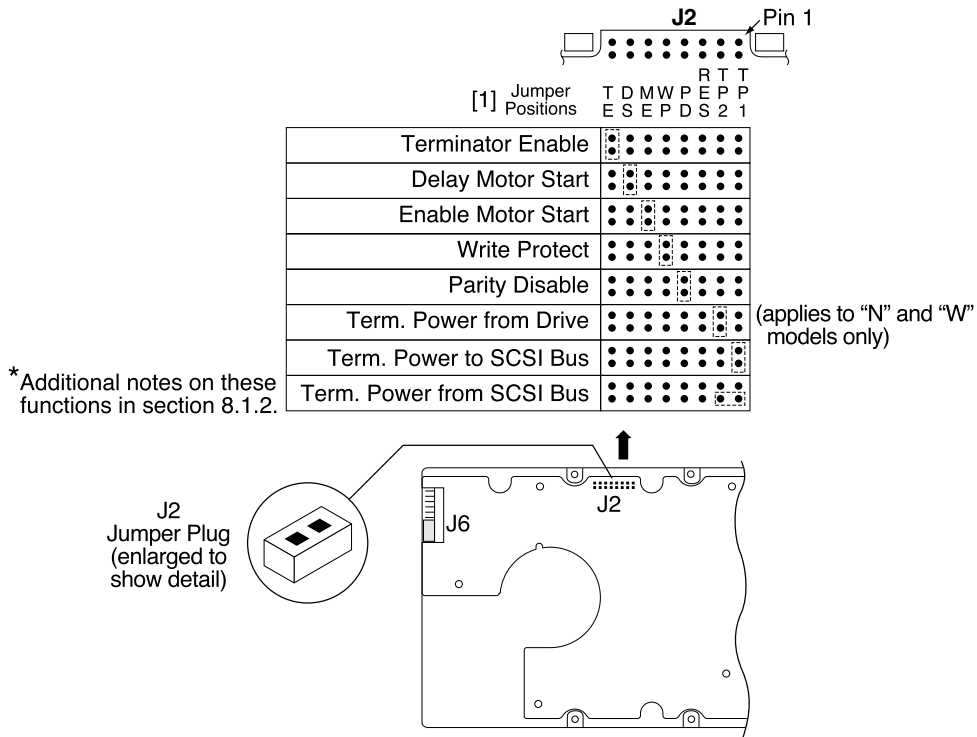

Figure 19. J2 option select header (for N and W models)
2. See Figure 19 for pins used for Termpower